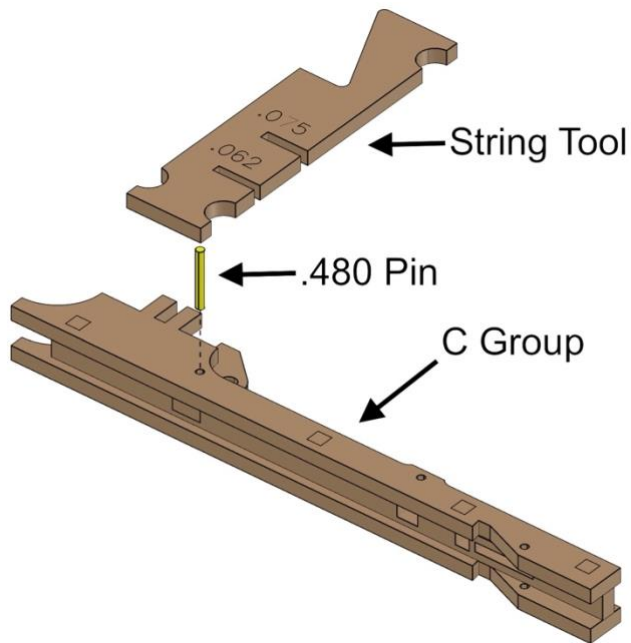

Fig. 7
- Align parts exactly as shown in *Fig. 7*.